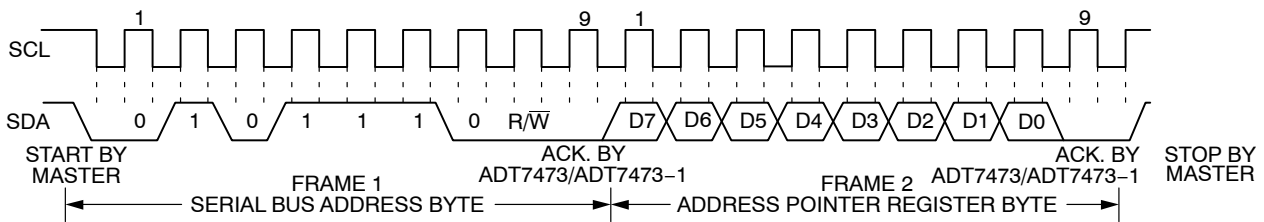
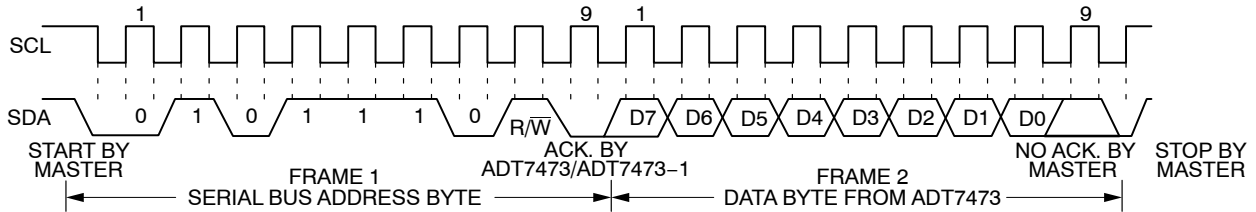

Figure 18. Writing to the Address Pointer Register Only
Figure 19. Reading Data from a Previously Selected Register
1. If the ADT7473/ADT7473-1's address pointer register value is unknown or not the desired value, it must first be set to the correct value before data can be read from the desired data register. This is done by performing a write to the ADT7473/ADT7473-1, but only the data byte containing the register address is sent, because no data is written to the register. This is shown in Figure 18. A read operation is then performed consisting of the serial bus address, R/\overline{W} bit set to 1, followed by the data byte read from the data register. This is shown in Figure 19.
2. If the address pointer register is known to be already at the desired address, data can be read from the corresponding data register without first writing to the address pointer register, as shown in Figure 19.